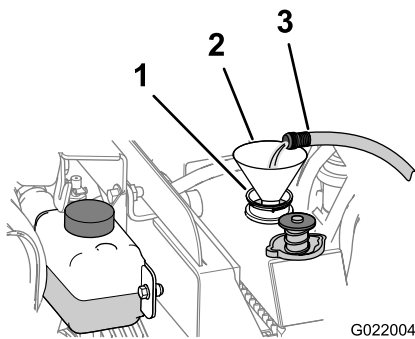

Figure 84
- B. Fill the radiator with clean water (Figure 84).